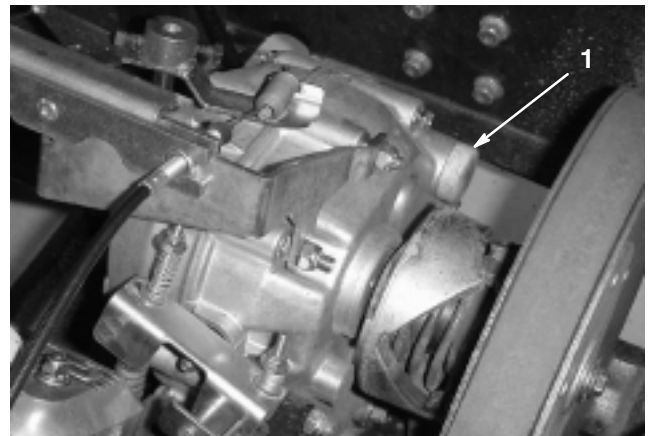

Figure 41
3. Fill the reservoir (Fig. 41) with approximately 1-1/2 qt. (1.4 liters) of 10W30 motor oil or until the oil level is at the bottom of the level indicator hole (Fig. 40).